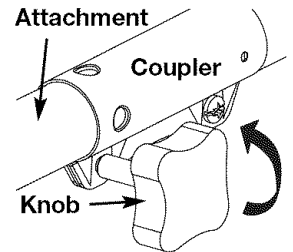

Fig. 14
2. Turn the knob counterclockwise to loosen the coupler (Fig. 14).